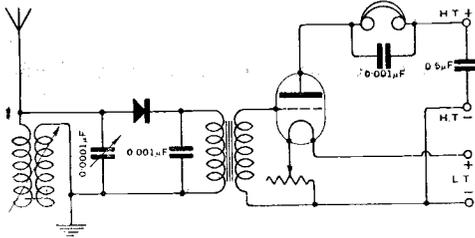

Fig. 3. "E.A.T." (W. Kilburn). A simple set consisting of a note magnifier added to a crystal receiver.
(1) The use of a small variable condenser is an advantage when tuning to the higher wavelengths of the variometer range. (2) The diagram is given in Fig. 3.